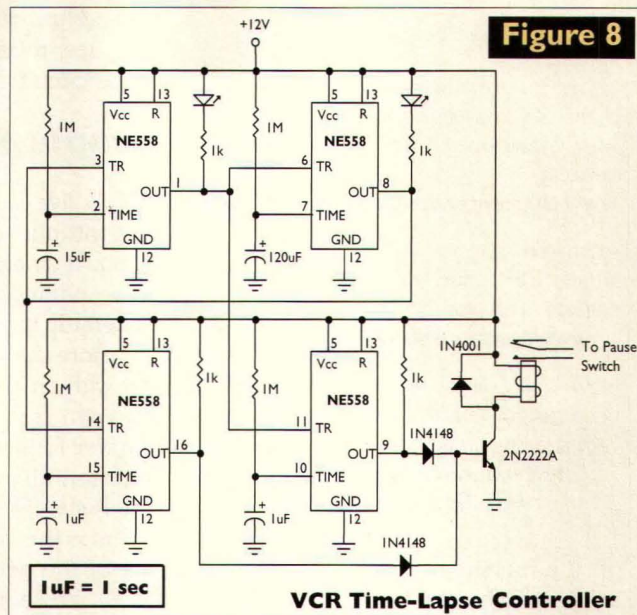

Figure 8
A. The best chip for this application is a 558 quad timer, which minimizes the parts count because it doesn't require coupling capacitors between stages. The top two timers (Figure 8) are connected in a ring counter, where the output of each feeds the input of the other. These outputs also feed the inputs of the two independent timers below, which are configured as monostable oscillators. Each time one of the monostable multivibrators is triggered by the ring counter, the relay NO contacts close for one second, which are wired in parallel with the Pause button on the VCR. The two 1N4148 diodes are wired together to form an OR circuit to drive the relay.
Q. I have been struggling with how to select diodes for the common application of blocking reverse voltage. It seems like, in most cases, the specs are so non-critical that the selection doesn't matter. But in the Apr. '03 column, there were two schematics in Figure 8 that specified two different diode values — 1N4148 and 1N4001 — and I am wondering why. In other simple circuit schematics, I see a mixture of diodes like 1N914, 1N4002, and 1N4003 specified, even though the circuit voltages are less than 14 volts. I have used diodes to block reverse connection at the input of my five-volt power supplies, and as flyback protection next to relays. In these cases, I've chosen the 1N4003 for its higher voltage rating. Is there an advantage to using one of the others? I feel like I am missing something here.